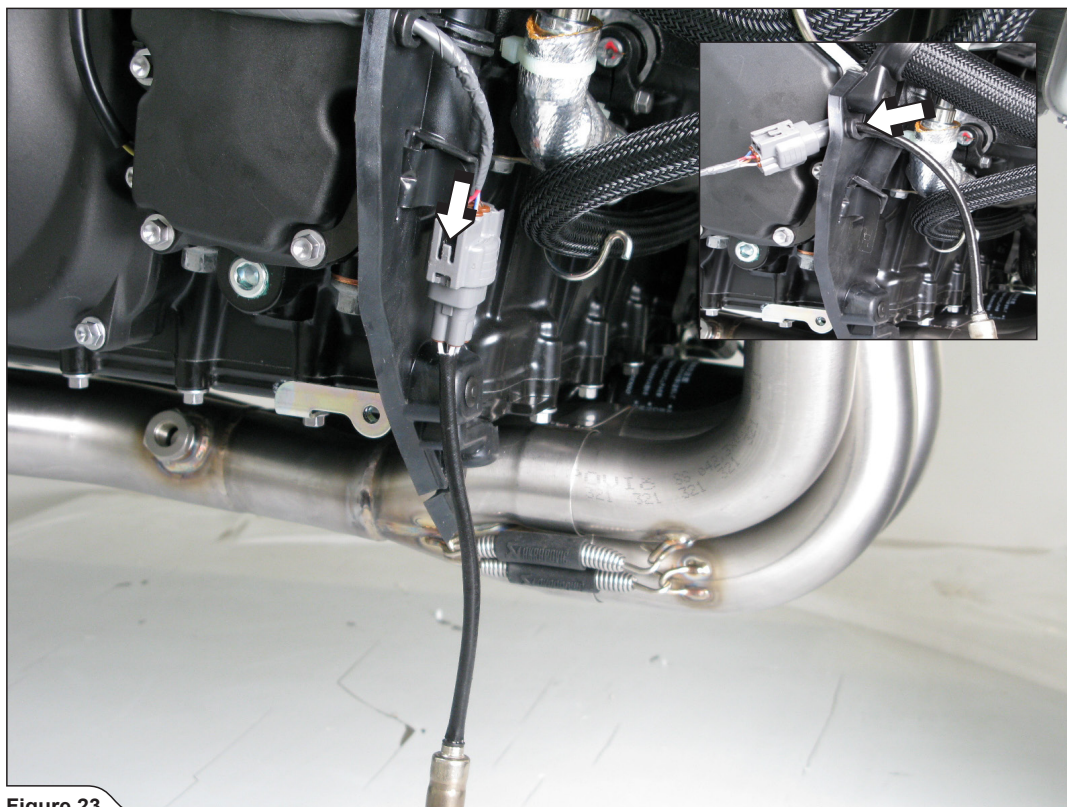

Figure 23
5. **For Optional Headers only:** remove the lambda sensors' connector and reinstall the sensors electrical leads as shown (Figure 23).